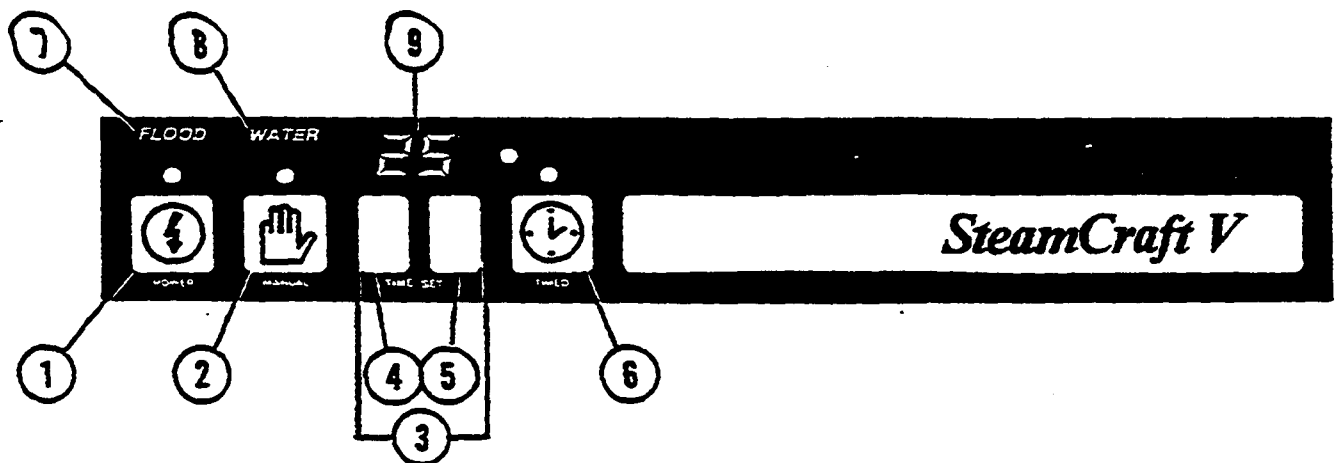

Figure 2-25. Control Panel
2. Press the TIMED touch pad (6, figure 2-25).
3. Refer to figure 2-25 and press the TIME SET one minute touch pad (5) to increase TIME DISPLAY from 00 to 09, then back to 00.
4. Refer to figure 2-25 and press the TIME SET ten minute touch pad (4) to increase TIME DISPLAY from 00 to 90, then back to 00.
5. Set the TIME DISPLAY to 01 and press the TIMED touch pad (6).
10. Press the TIMED touch pad (6) to stop displays.
11. Set TIME to any number over 00. Press the MANUAL touch pad (2).